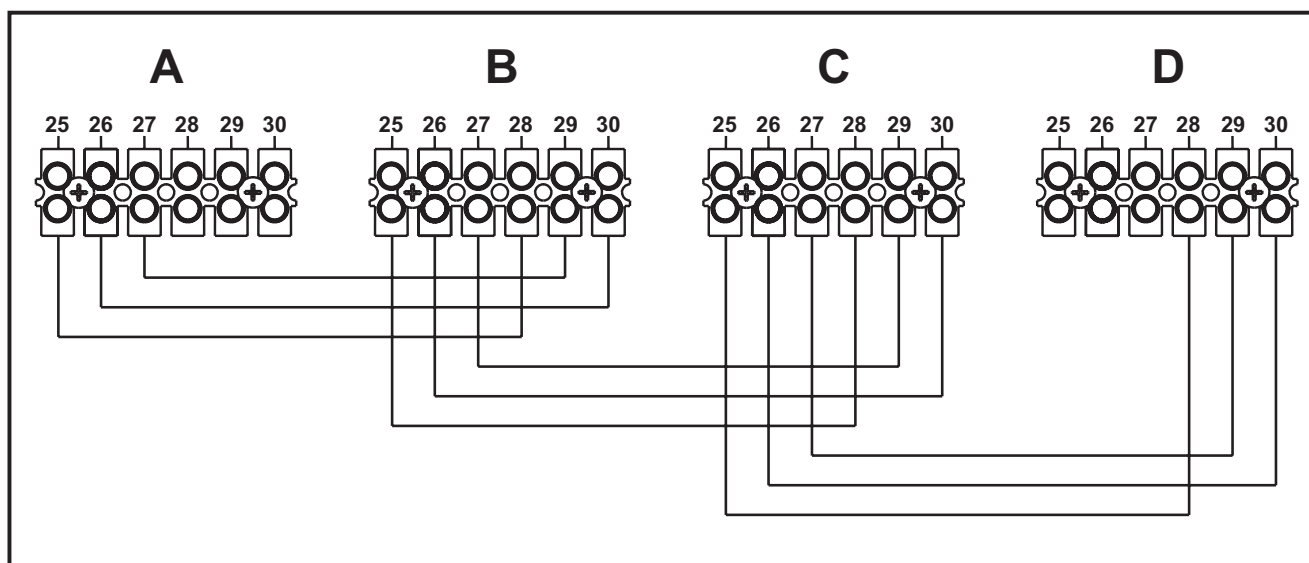

fig. 31 - Connection in cascade
1. Connect the modules as shown in fig. 31
If this does not occur, disconnect the power and check the wiring in fig. 31.